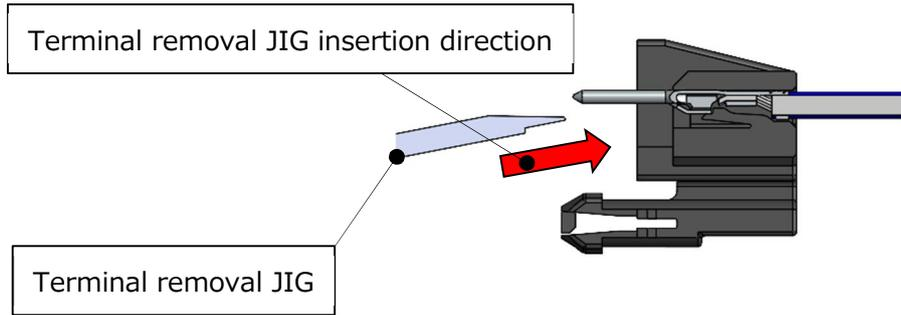
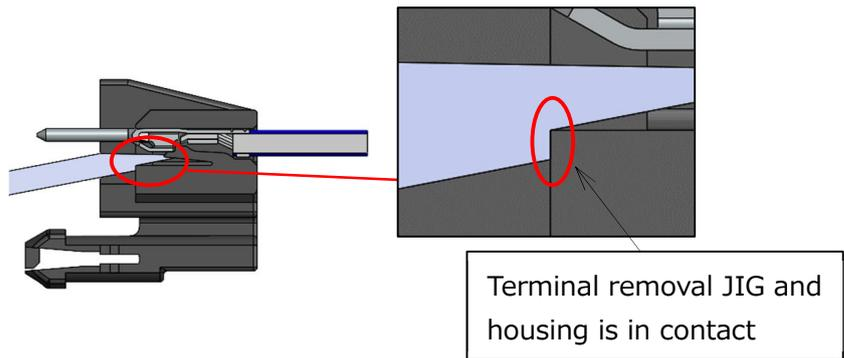
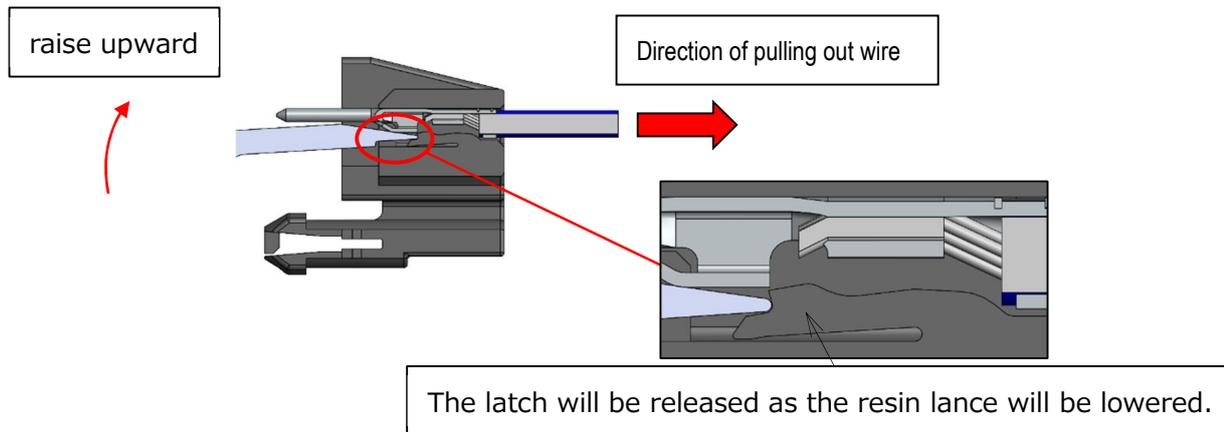

Fig.28 Terminal removal JIG insertion process
Fig. 29 Terminal removal jig and housing are in contact
Fig30. Terminal releasing jig in operation
- ② Insert the tip of the terminal removal JIG diagonally from below as shown in Figure 28. When the terminal removal JIG and the housing come into contact as shown in Figure 29, Lift the pull-out JIG upwards as shown in Figure 30 to release the resin lance. While maintaining this state, pull out the terminal wire horizontally.
- ③ If there is any difficulty in pulling out the terminal, do not pull it forcefully. Check that the jig is in the correct place, that it is pushed fully in, etc. and repeat the procedures ① and ②.